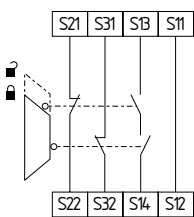

Fig. 9
**Monitored dual-channel controlled safety guard (see Fig. 9)**